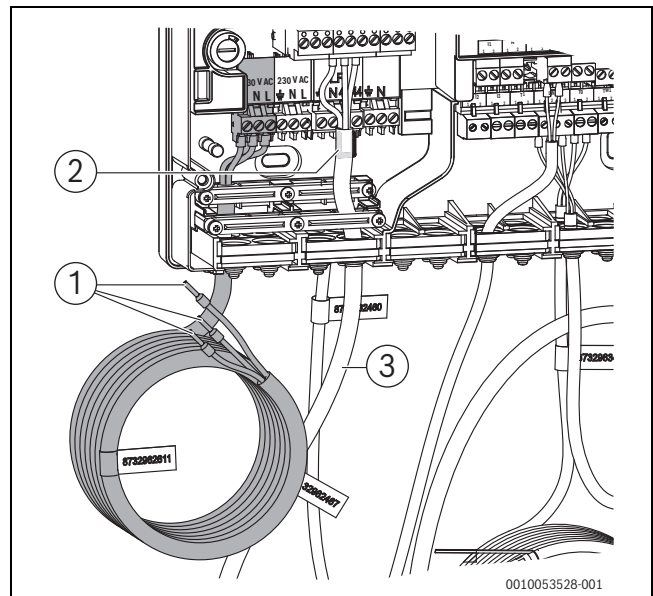

Fig. 29 Connect 230 V voltage supply
- ▶ If necessary, remove the cable ties from the 230 V power cable (→Fig. 29) and route the cable through the back panel or the bottom panel of the hybrid set.
- ▶ Before connecting an external controller with 230 V connection, remove the jumper between **43** and **44** (→Fig. 29).